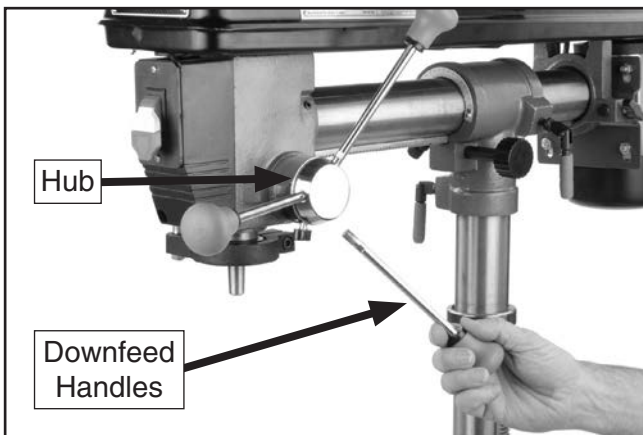

Figure 20. Installing downfeed handles.
16. Tightly thread the downfeed handles into the hub as shown in **Figure 20**.